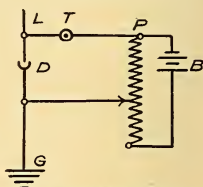

FIG. 19—CONNECTIONS OF CARBORUNDUM DETECTOR
A local battery in connection with a potentiometer should be used with a carborundum detector. Two or three dry cells may be required, depending on the kind of carborundum used. This is a very satisfactory detector, and is extremely sensitive when a good crystal is used. The green variety of carborundum generally gives very good results. Fig. 19 shows how the carborundum detector may be connected to (L) the lead-in wire from the aerial, (T) the telephone receiver, (P) a potentiometer, and (B) a battery.